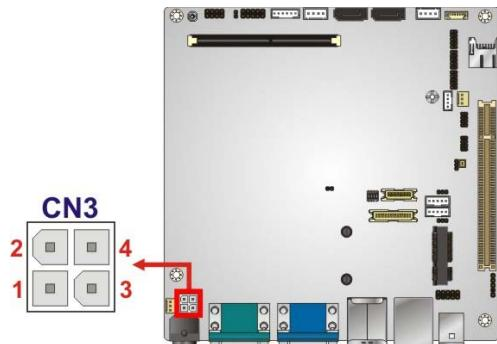

Figure 3-13: ATX Power Connector Location
**Table 3-13: PCIe Mini Card Slot Pinouts****3.2.12 Power Connector (9 V – 28 V)****CN Label:** CN3**CN Type:** 4-pin connector**CN Location:** See **Figure 3-13****CN Pinouts:** See **Table 3-14**